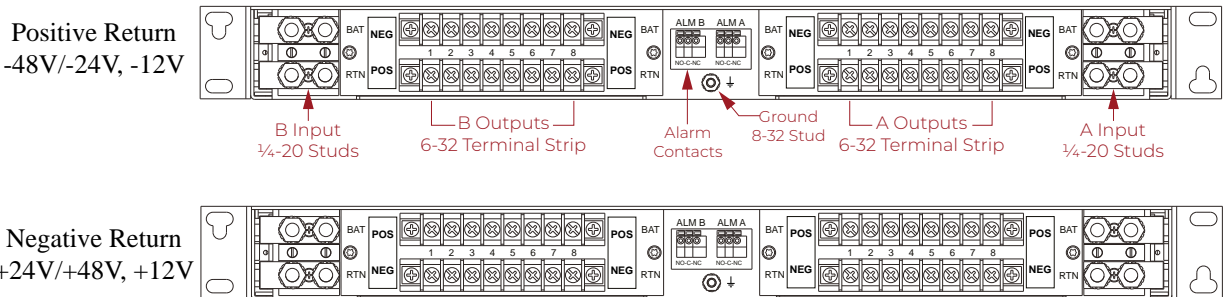

Figure 4. Back Panel View
9.1 Back View. Figure 4 shows the back of the DPP1U distribution panel. Inputs are at the left and right ends of the back panel. Side B outputs are at two rows of barrier terminal strips on the left side, and side A outputs are the same on the right side. At the center of the back panel are two spring clamp terminal blocks for the Form C relay contact outputs.
9.4 Output Connections. Output connections for A and B loads are shown in Figure 4. There are 8 sets of barrier terminal strip connections for each side, A and B. The connections are numbered to correspond with the numbers of the front panel breakers. The upper strip connections are from the battery through the breakers; the lower strip connections are the returns. Side B is on the left and side A on the right, as shown.
CAUTION: See section 9.1 figure 4 to confirm connection polarity of the panel being installed.
- CAUTION:** See section 9.1 figure 4 to confirm connection polarity of the panel being installed.